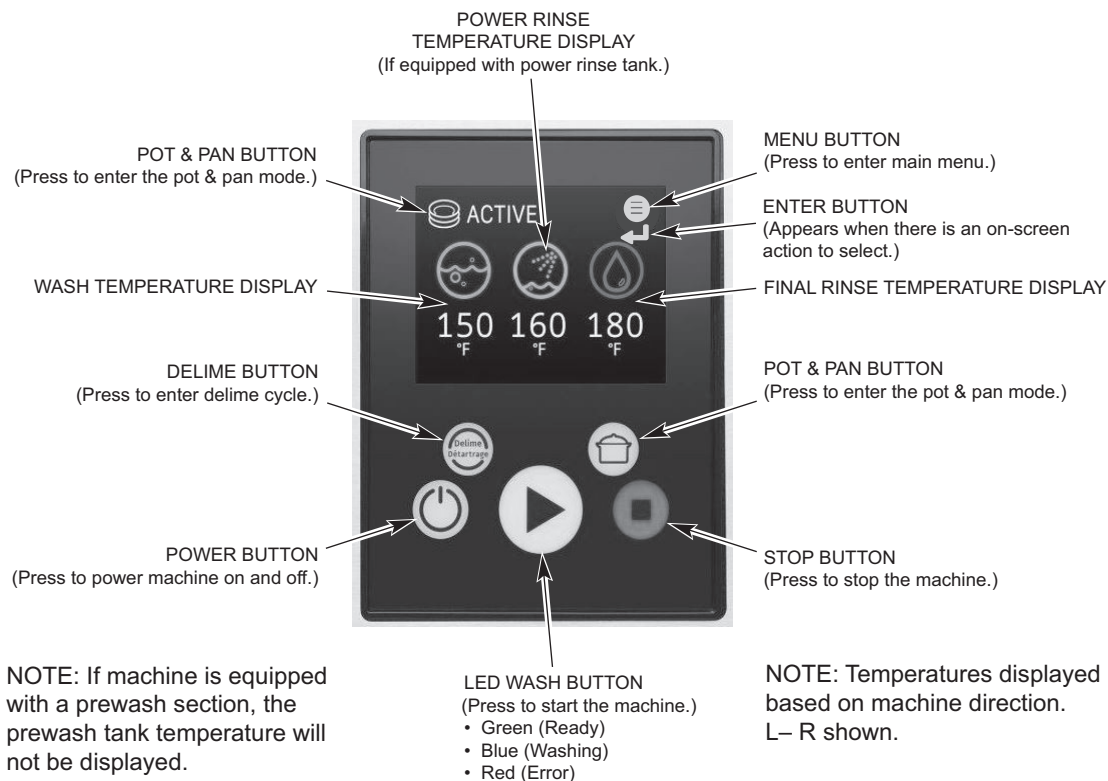

Fig. 24
The controls are mounted on top of the dishwasher. The HMI is mounted on the front of the control box (Fig. 24).
Close all doors. When the doors are closed, this will automatically close the drain. To begin filling after the machine is ready, press the POWER button (Fig. 24).
5. Press the POWER button (Fig. 24). Dishwasher will fill automatically (refer to Filling the Dishwasher, page 22). After the tank has filled, the burner will ignite if heat is required. The ignition system includes a 15-second pre-purge period before ignition occurs.
After the machine has filled, start the pumps by pressing the WASH button on the HMI (Fig. 24) or by inserting a rack into the machine.
Tank temperatures are shown on the display (Fig. 24) when the machine is in operation. The final rinse temperature displays ---- until a rack is in the rinse zone; then, the final rinse water temperature displays. After the ware exits the rinse zone, the final rinse temperature display returns to ----.
The pot and pan feature, standard on all CL models, allows the operator to wash heavily soiled pots and pans by indexing the racks thru two pre-set wash zones for a specified amount of time. Press the POT & PAN button located on the HMI (Fig. 24) to enter the pot and pan mode. Insert a rack into the machine. Each rack will index twice thru the wash zone by the pre-set time. The machine will return to normal operation by pressing the POT & PAN button or the STOP button, or if the Auto Timer times out.
1. Press the POWER button on the keypad to turn the machine off (Fig. 24).